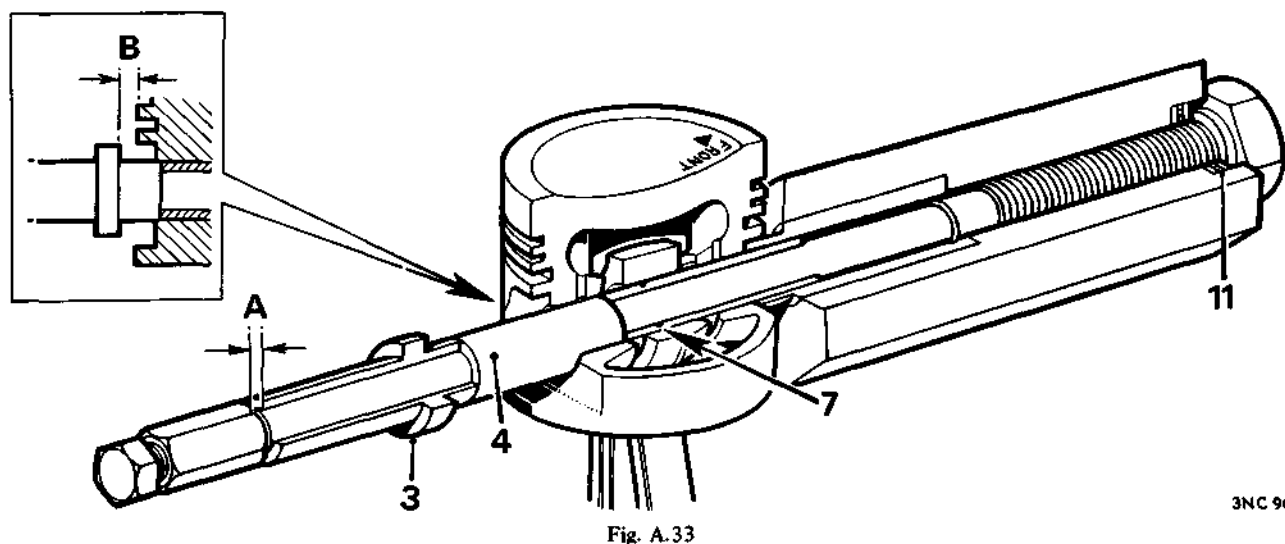

Fig. A.33
21. Screw the stop nut onto the centre screw and adjust to the correct end-float ('A' Fig. A.33). Lock the nut securely with the lock screw.
Using the torque wrench and 18G 587 on the large nut, and holding the lock screw, pull the gudgeon pin in until the flange of the remover/replacer bush is the correct distance from the piston skirt ('B' Fig. A.33).